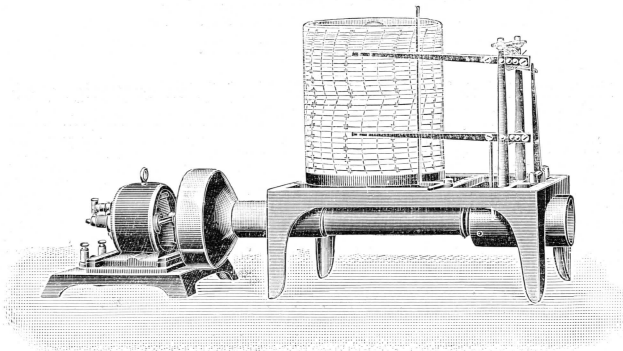

Fig. 15.
**Barograph for fixed Stations. (Fig. 15.)**
*Barographe pour stations fixes. (Fig. 15.)*